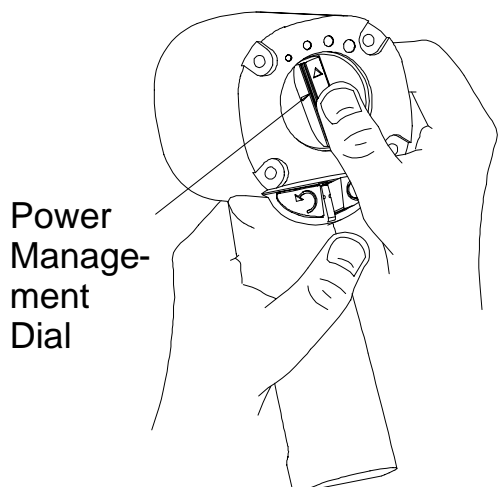

Figure 3
**NOTICE:** When pulling, disassembling or assembling the motor, we recommend replacement of the Motor Gasket (8).
1. Remove the Motor Assembly from the Housing (20) by pushing on Power Management Dial (41) from the back of the Housing. See Figure 3.